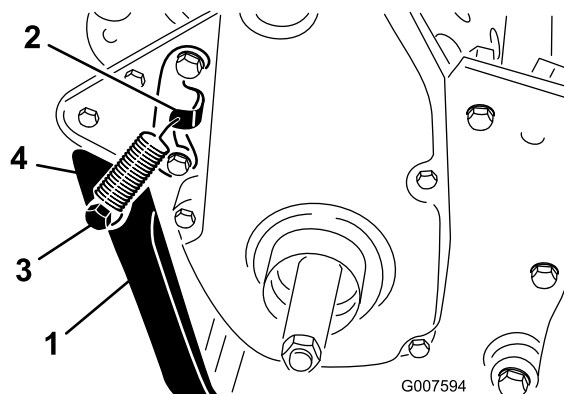

Figure 5
1. Hook spring into hole in spring bracket and onto spring retainer while aligning kick stand with mounting holes in rear frame (Figure 5).
2. Mount the kick stand to each side of the frame with a bolt, lockwasher, spacer, flat washer and locknut (Figure 5). Position the spacer in the kick stand mounting hole.